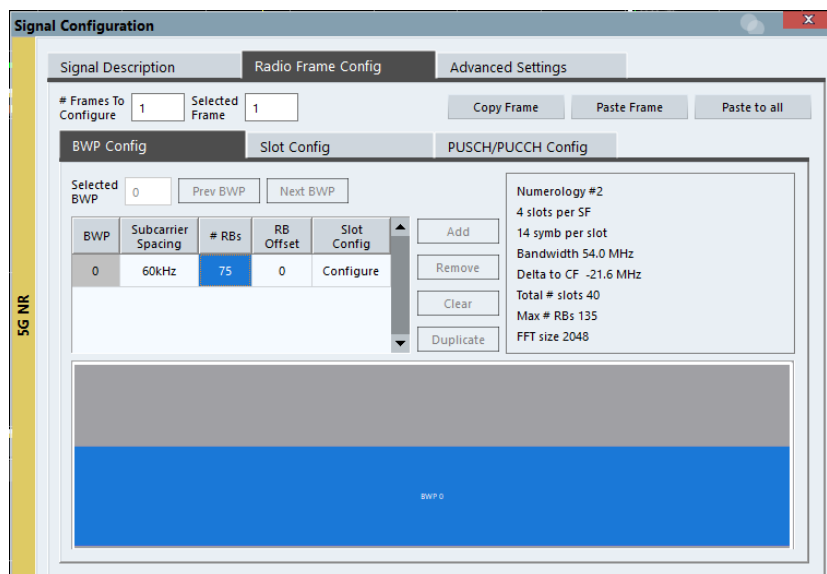

Fig. 2-36: Radio Frame Config on the VSE
- I From the Radio Frame Config window, the sub categories (shown in Fig. 2-36) need to be configured